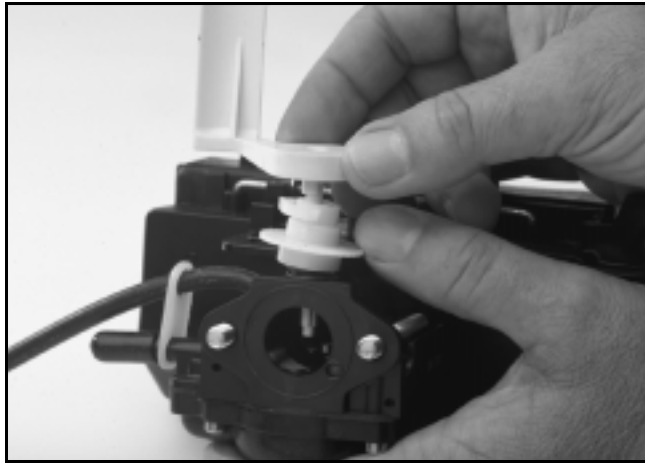

**Figure 20**
1. **NOTE:** The exterior of the carburetor should be cleaned before removal from the machine. If this has not been done, clean the outside before disassembly. At the throat of the carburetor, using needle nose pliers, gently pull the throttle plate out of the throttle shaft. (See Figure 20.) Notice the orientation of the small protrusions on the throttle plate as you pull it out.